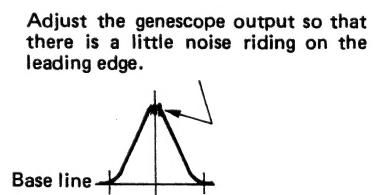

Fig. 1
- Feed in a weak signal to TP102 from the genesope. Adjust T101, T201 for maximum gain and the wave form indicated in Figure 1. If the center of the wave form cannot be lined up on the marker, adjust the right/left balance.